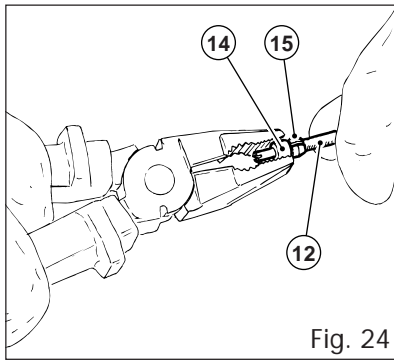
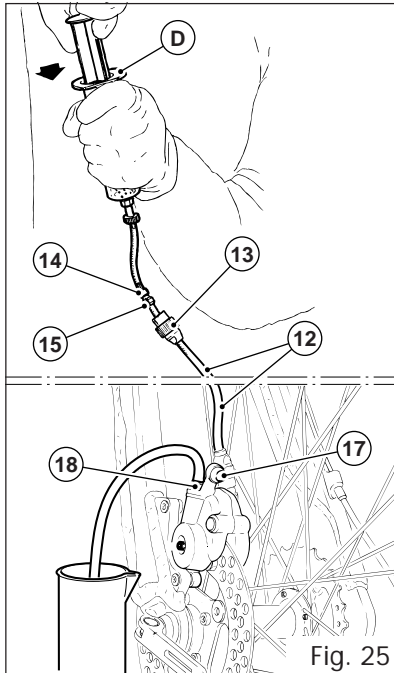

Fig. 24
Fig. 25
- fasten the special tube supplied to the spout on the syringe (D);
- check that the leverside of the tube has been fitted with the lock nut (13, fig. 24), the biconical bushing (15) and the needle-insert (14);
- now connect the syringe with the tube (12) by pushing the syringe tube on the needle-insert (14);
- take the rubber protection cap (17, fig. 25) off the caliper and fit a 4mm diameter transparent hose on the bleedvalve (18);